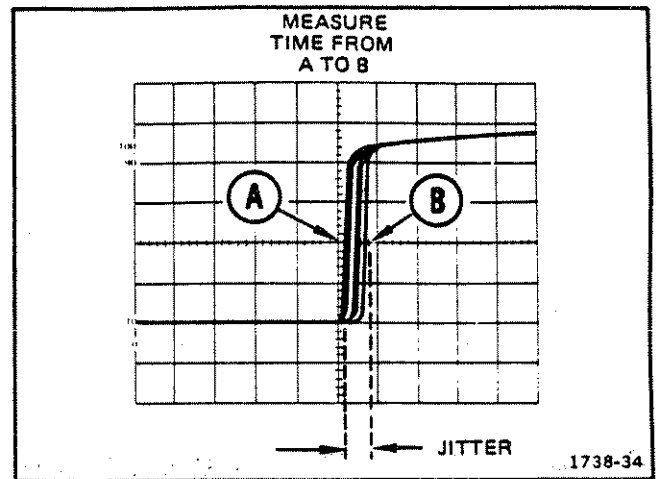

Figure 23. Pulse jitter.
4. Referring to Figure 23, measure the distance between Point A and Point B in divisions and calculate the pulse jitter time using the following formula: